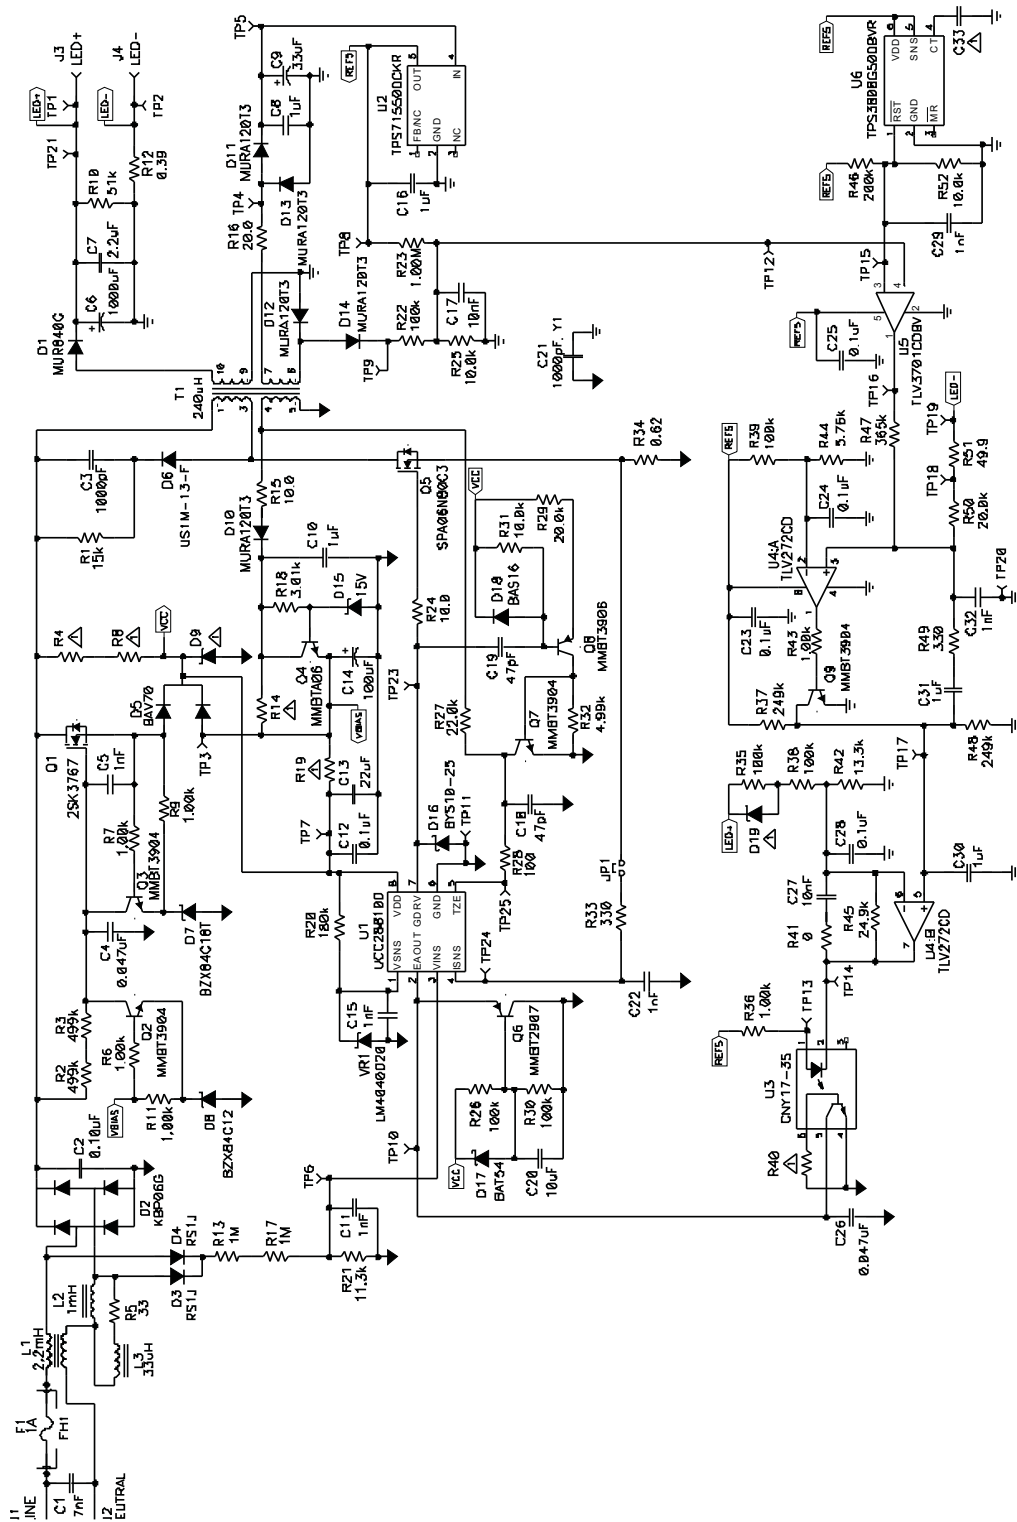

Figure 1. UCC28810EVM-001 Schematic
- If a dimmer switch is not available, dimming can be accomplished by directly modifying the current regulation point by inserting an externally generated signal into the phase detect circuit. The existing UCC28810EVM-001 must be modified by removing D14, R23, and C17 (shown in Figure 1). Using TP9 as an input terminal, connect a PWM dimming control signal.